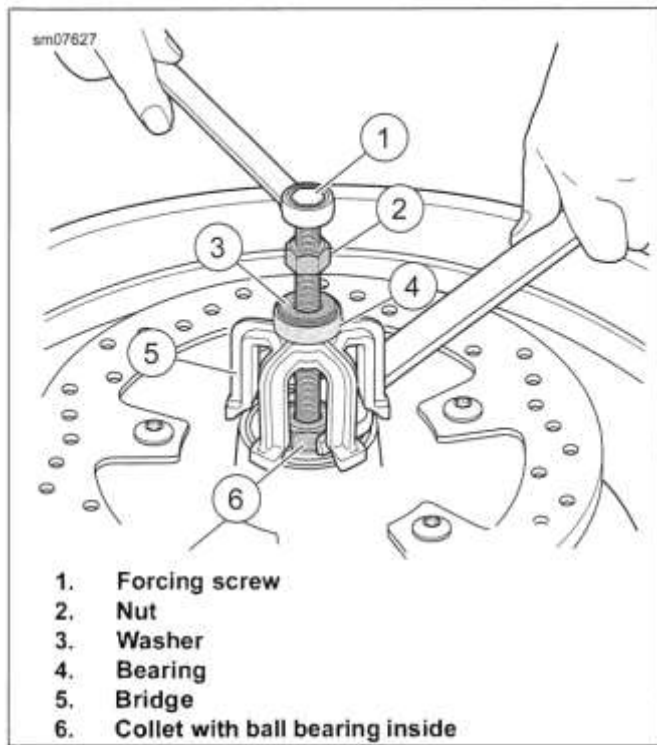

Figure 3-27. Wheel Bearing Removal Tool
3. See Figure 3-27. Assemble WHEEL BEARING INSTALLER/REMOVER (PART NUMBER: HD-44060D).
- b. Install nut (2), washer (3) and bearing (4) on screw.
- c. Insert assembly through hole in bridge (5).
- a. See Figure 3-27. Hold end of forcing screw (1) and turn collet (6) to expand edges of collet.